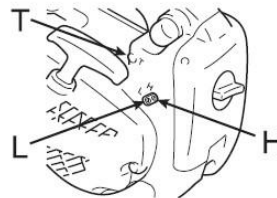

Fig. 21
- Turn the idle speed adjustment screw (Fig. 21-L) and the maximum speed adjustment screw (Fig. 21-H) counterclockwise as far as it will go.
- Turn the neutral adjustment screw (Fig. 21-T) counterclockwise until the chain stops.
- Turn the neutral adjustment screw (Fig. 21-T) counterclockwise another half turn.